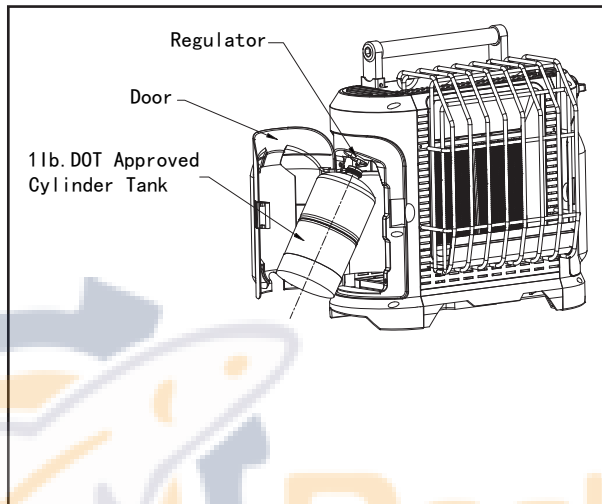

Fig. 1 - 1 lb. Cylinder Tank Installation
**Tank Installation for DOT Certified 1 lb. Propane Cylinder(s) (Fig. 1)**